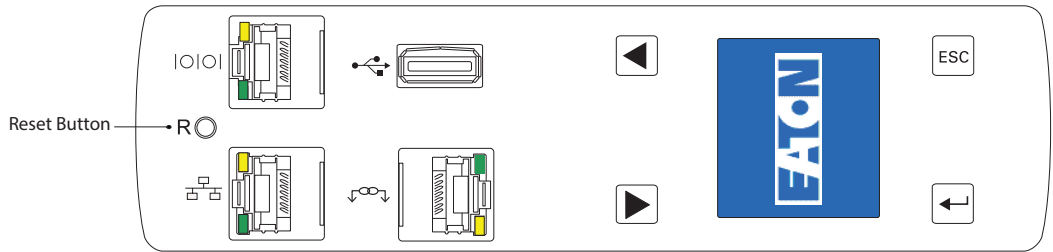

Figure 48. Reset Button (0U Models)
3. After 10 seconds, use the reset button to restart the eNMC module and apply the new settings (see Figure 48).